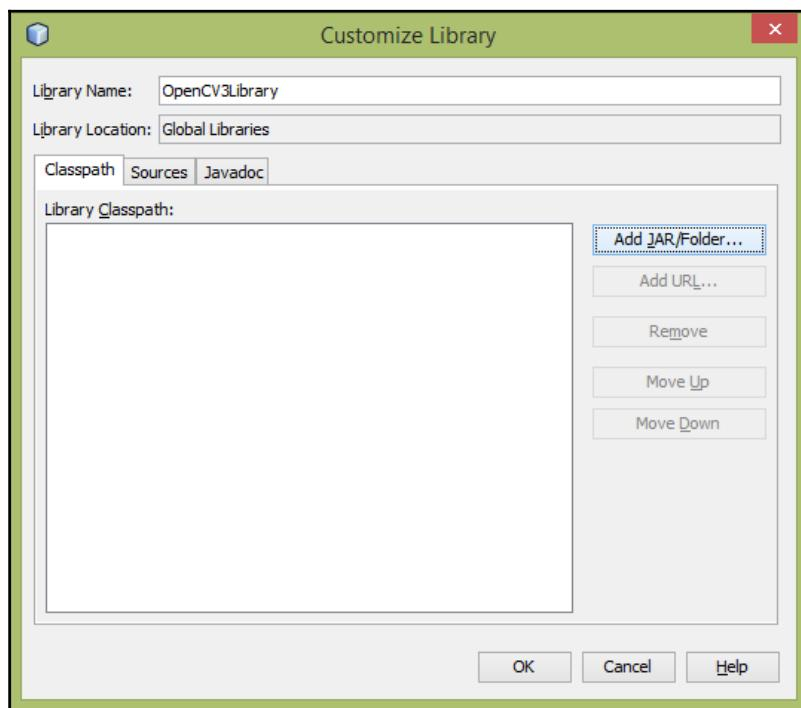

Figure 7-7: Customize Library
3. In the Customize Library dialog box (Figure 7-7), click the **Add JAR/Folder...** button: